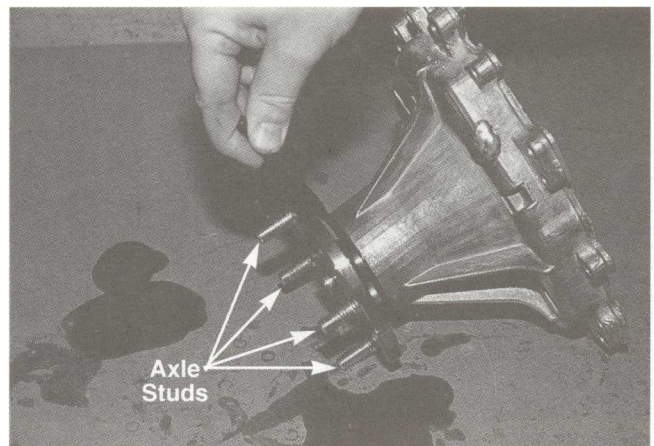

FIGURE 20.
20. If a stud becomes loose or broken and needs to be replaced, it is important to properly support the axle during this procedure in order not to put undue stress on the bearing. See figure 20.